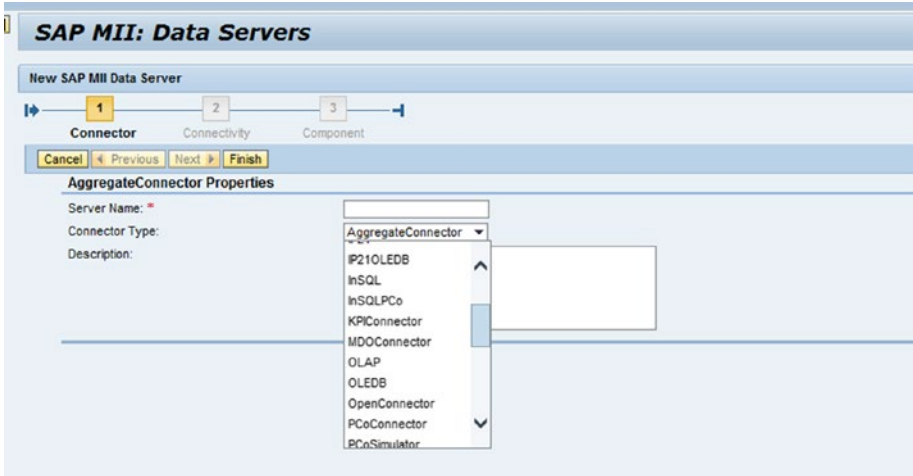

Figure 3-4. Data Server configuration
3. Give it a proper server name (mandatory) to recognize later on and a description (optional). Select the appropriate connector type from the drop-down, as shown in Figure 3-4.